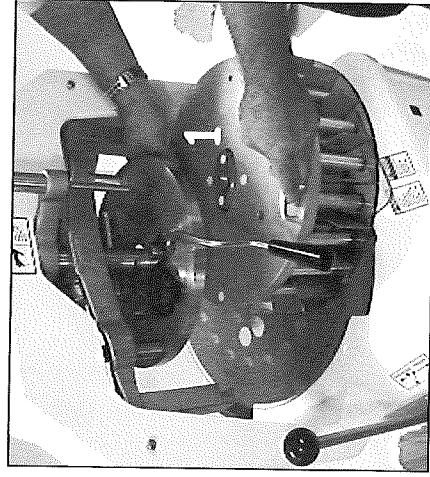

Figure 13
1. With pallet in place, position head assembly (Fig. 13, No. 1) in center of pallet with handle in front.